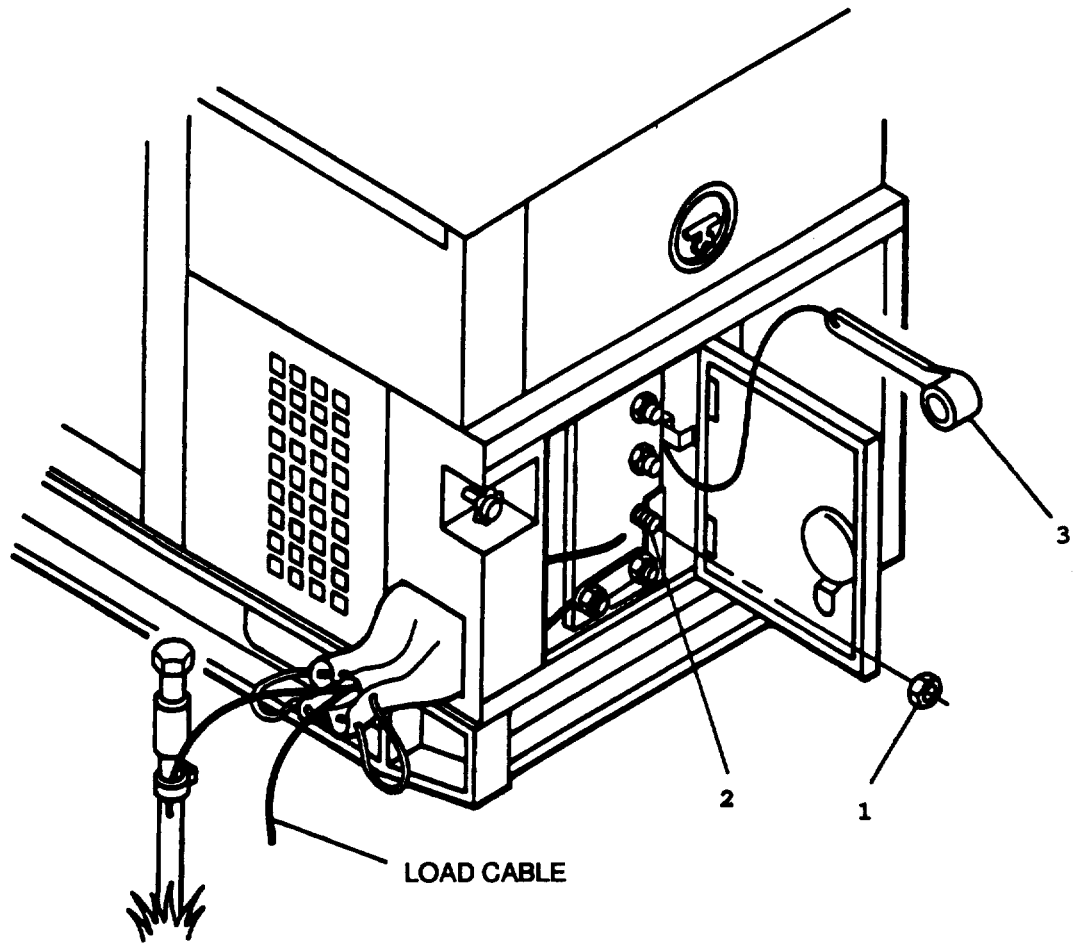

Figure 2-5. Installation of Load Cables
- d. Using terminal nut wrench (3, FIGURE 2-5) loosen terminal nuts (1) on terminals (2) selected in Step b.
- e. Insert ends of load cables through load cable exit. Then insert ends of cables into slots of load terminal studs (2).
- f. Tighten load terminal nuts (1).
- g. Secure wrench (3) in bracket inside load terminal door, and close door.